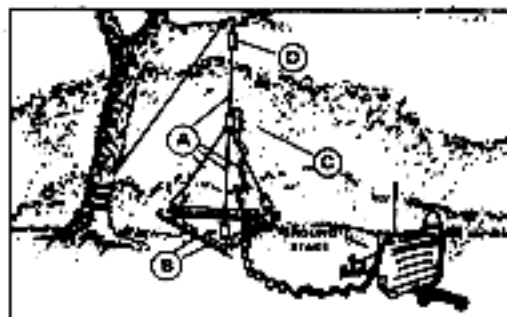

Figure 7-4. Expedient 292-type antenna
c. Expedient 292 type antenna (jungle antenna). The expedient 292 type antenna was developed for use in the jungle and if used properly, will increase your ability to communicate. You can fabricate a complete expedient 292 antenna using WD-1 (or similar wire) and other readily available materials. Determine the 1/4 wavelength of your operating frequency and cut 4 elements (1 radiating and 3 ground planes) as in figure 7-4(a). Cut 3 spacing sticks figure 7-4(b) the same length. Place the ends of the sticks together to form a triangle and tie the ends with wire, tape or rope. Attach an insulator to each corner. Attach a ground plane wire to each insulator. Bring the other ends of the ground plane wires together, attach them to an insulator figure 7-4(c), and tie securely. Strip about 3 inches of insulation from each wire and twist them together. Tie one end of the radiating element to the other side of insulator C, and the other end to another insulator figure 7-4(d). Cut enough WD-1 wire to reach from the proposed location of the antenna to the radio set. Attach the radiating element to one of these wires and then to the long whip base attached to the radio. Attach the other to the ground plane wires and to the radio set case (ground). Hoist the antenna to the desired height and attempt communications.